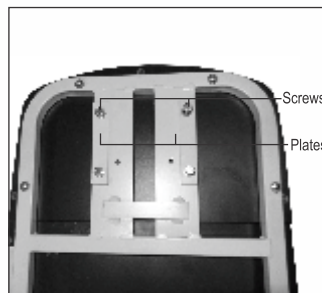

Fig 5
5. Place the top (Fig 5) upside down on the flat surface. Put some packing sheet below the top to prevent any damage.
6. Remove the screws and plates fixed on the top (Fig 5).